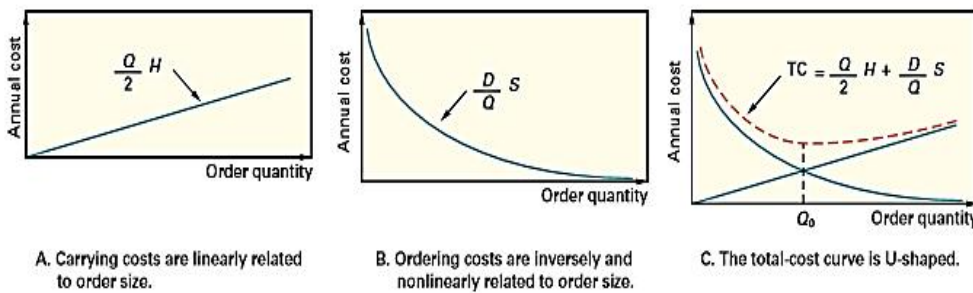

Figure 7.4: Graphical representation of costs related to EOQ
As shown in Figure 7.4 A, carrying costs are a linear function of Q : they increase or decrease in direct proportion to changes in order quantity Q . Annual ordering costs, on the other hand, will drop as order size grows since, for a given annual demand, the larger the order size, the fewer orders are required.
Annual ordering cost is inversely related to order size, as shown in Figure 7.4 B, because the number of orders each year, D/Q , reduces as Q grows. When Q units are ordered each time, the total annual cost (TC) of carrying and ordering inventory is
(Note that D and H must be expressed in the same units, such as months and years.) The total cost curve is U-shaped (i.e., convex, with one minimum) and achieves its minimum at the quantity when carrying and ordering costs are identical, as shown in Figure 7.4 C. Calculus can be used to find an expression for the optimal order quantity, Q as given below in the formula.